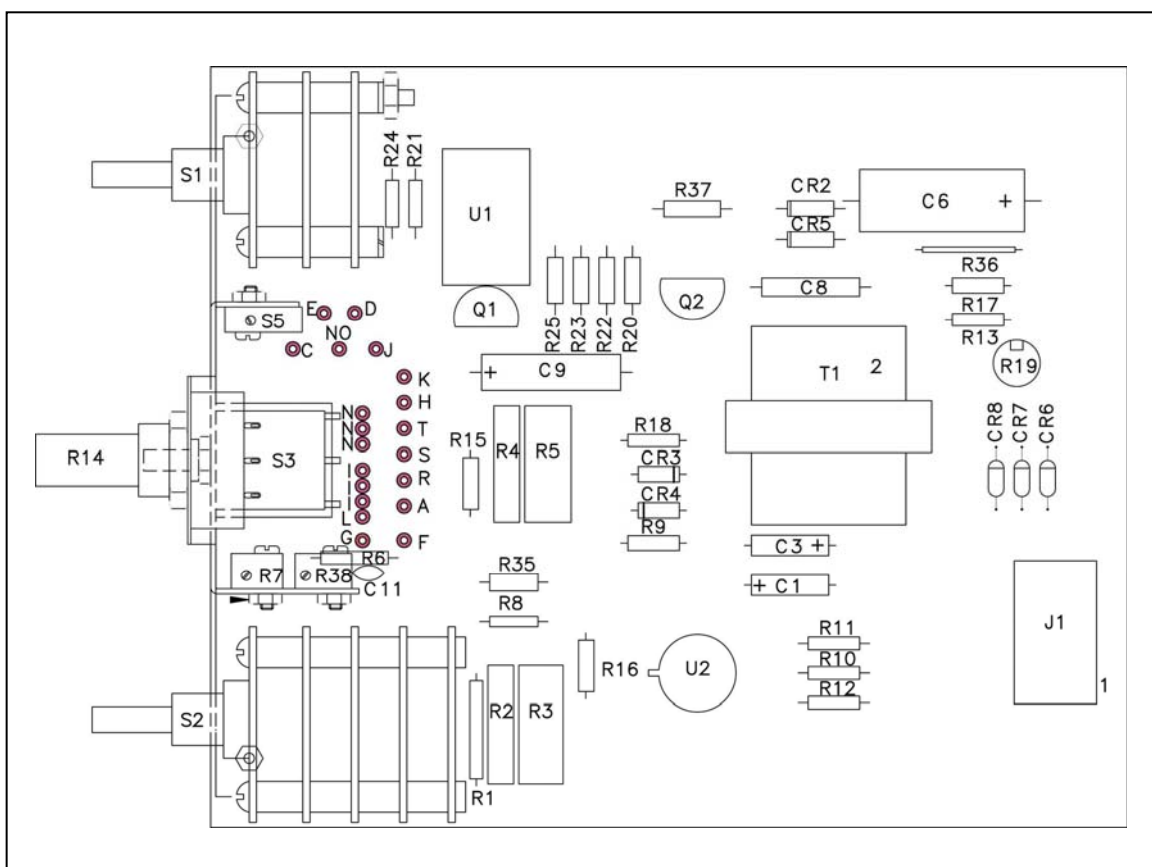
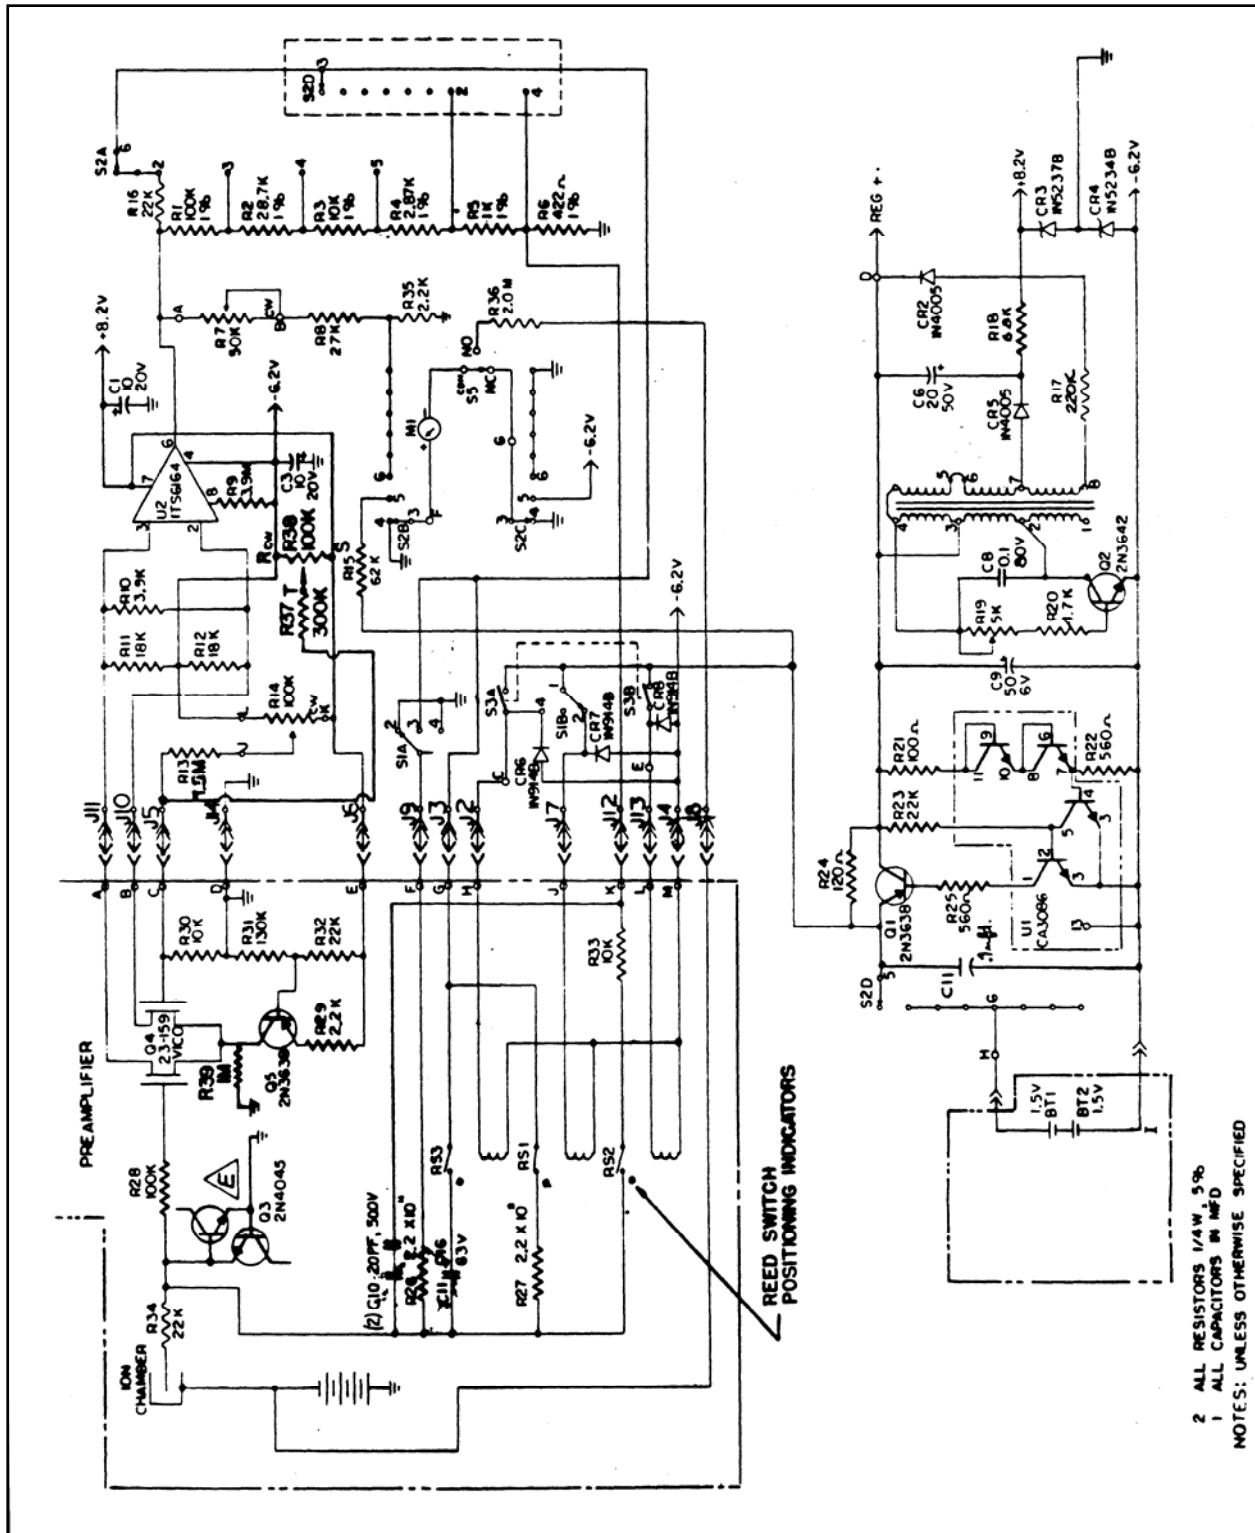

Figure 5-2. Circuit Board Assembly
Figure 5-3. Schematic Circuit Diagram
9. If these voltages are correct, check the voltages across R11 and R12. These should both be about 1.5 volts and equal. Refer to Figure 5-2, Circuit Board Assembly, and Figure 5-3, Schematic Circuit Diagram, for further continuity and voltage checks. If the difficulty seems to lie in the preamplifier, return the instrument to Fluke Biomedical.